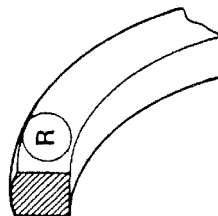

Figure 6. Piston Ring Marker.
- c. When inserting the piston ring, the manufacturer marker should face up. See Figure 6.